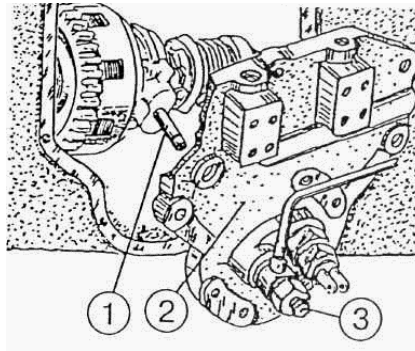

Figure 5.18
f) torque nuts (2) for fastening flange (3) of cardanshaft to 35...45 N·m. (3.5...4.5 kgf m);
g) to install cover (2) on transmission (2) (figure 5.18) as an assembly, unscrew plug (3) and align bushing (1) with cover opening using rod of 5...6 mm;